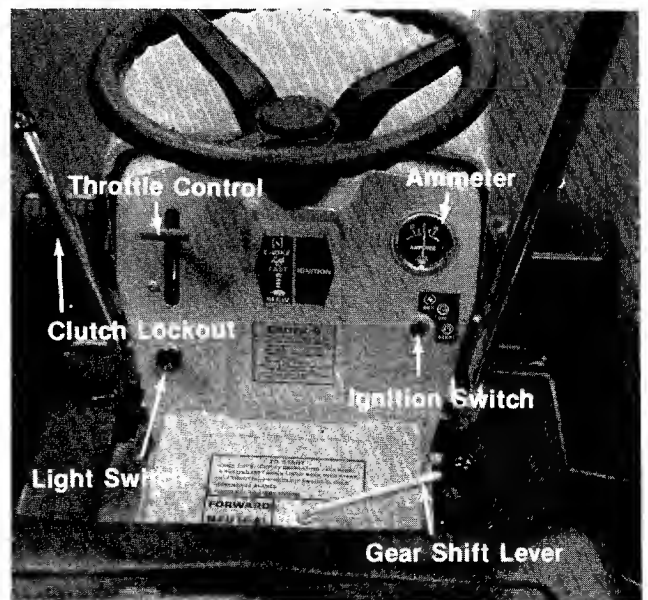

FIGURE 7. CONTROLS
a. Throttle Control. The throttle control is used to regulate the engine speed and choke the engine. The engine should be operated from $\frac{3}{4}$ to full throttle when operating the cutting deck or snow thrower (optional). See figure 7.
b. Gear Shift Lever. The gear shift lever is used to shift into one of four **Forward Gears**, **NEUTRAL** or **REVERSE**. See figure 7.
h. **Ammeter.** The ammeter registers the rate of battery charge or discharge. The ammeter should register on the plus side (+) when the engine is running the fast position until the battery is completely charged. With a fully charged battery or with the engine idling the ammeter will not show a charge. See figure 7.
i. **Light Switch.** Pull the light switch out to turn on the lights. The lights will only operate when the engine is running. See figure 7.
Electric Start. See figure 7. Turn the key to the START position to start the engine. When the engine is running, let the key return to the ON position. To stop the engine, turn the key to the left to the OFF position and remove it to prevent accidental starting.
- Step 4. Set the throttle control in the **CHOKE** position. See figure 7.
See figures 7 and 13. Turn the ignition key to the **START** position. When the engine is running, let the key return to the **ON** position.